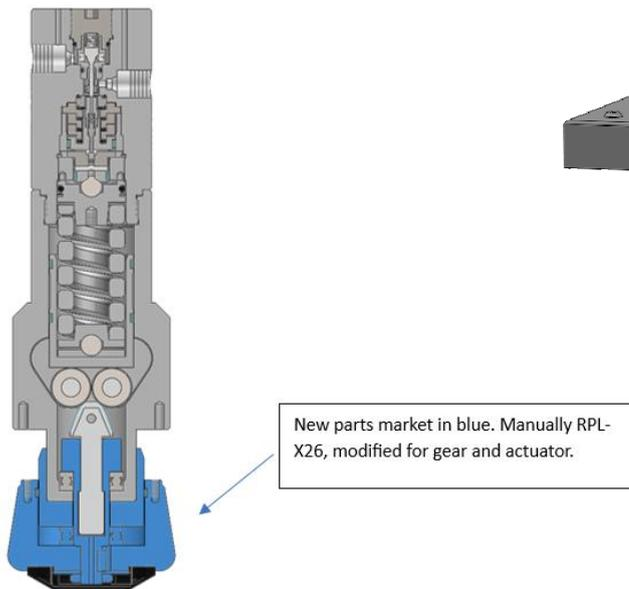

Figure 8: RPL-X26 Split section view
- Position the Valve Seat and push it into the Pressure Housing using your finger or a special tool. Ensure not to damage the Valve Seat during assembly. The holes in the Valve Seat must be aligned 90° to the inlet/outlet ports, refers to figure 8.